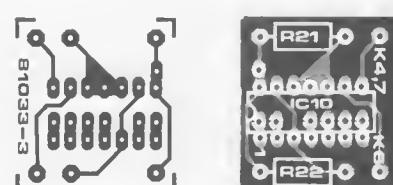

Figure 1. The 'piggy-back' board, which includes the circuit shown in figure 2b, replaces IC10 on the main board.
When an upper storey is built on to a house, it is a good idea to check the foundations and make sure the whole lot won't collapse under the strain... Actually, as far as the Junior Computer is concerned, there isn't that much to do (see Table 1) and, in any case, people who feel wary about removing components may rest assured, as they have the choice between changing resistors (for ones with a lower value) or connecting resistors in parallel to the ones already present. Don't forget to modify the wire link at point D! Point D should now be connected to point EX. Readers with the intention of using the Printer Monitor (PM) program, including the step by step reading facility, should include the circuit shown in figure 2b. This is a special module which can be mounted on the main board in the manner indicated in table 2. The module's component overlay and printed circuit board are shown in figure 1. Figure 3 shows how to mount